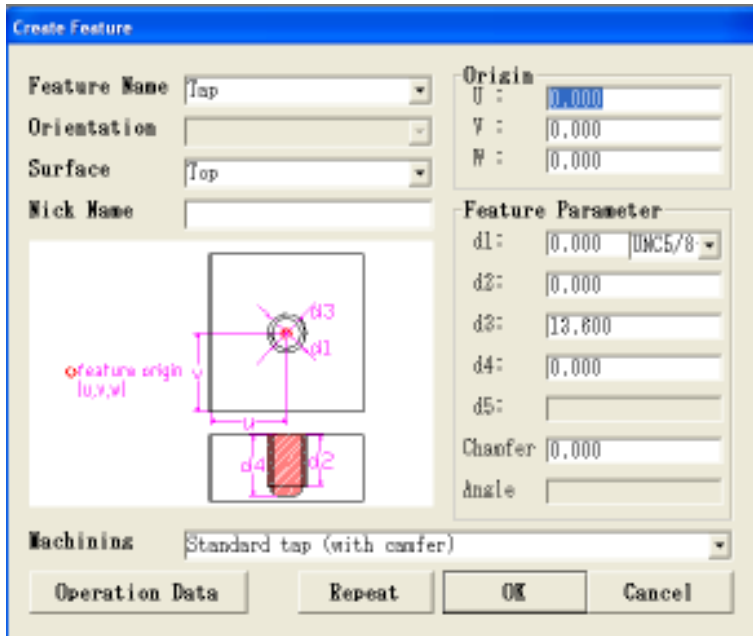

Figure 2-4. Tap feature dialog box
- (1) Click the Tapped Hole Feature icon to display the following dialog box of Figure 2-4.